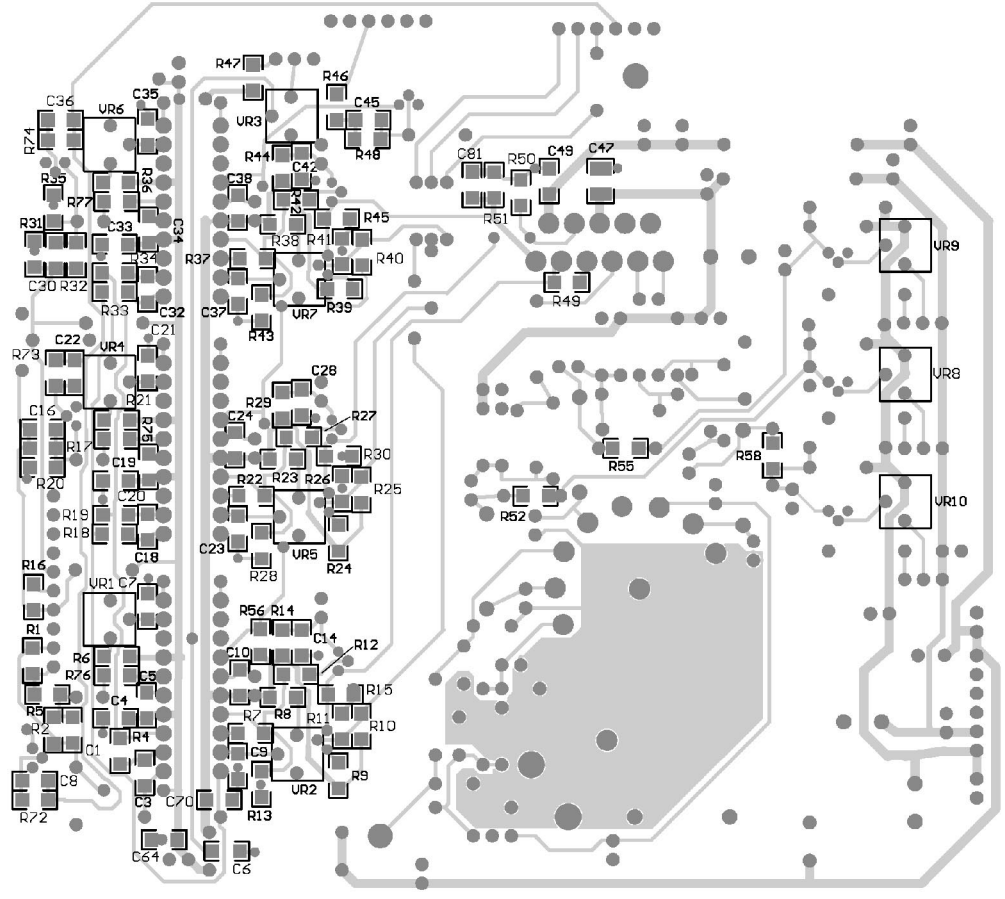

FIGURE 12. PCB Bottom Layer
- C47 - V_{CC} bypass capacitor, located very close to pin 6 and ground pins. (*Figure 12*)
- C49 - V_{EE} bypass capacitor, located close to pin 10 and ground. (*Figure 12*)